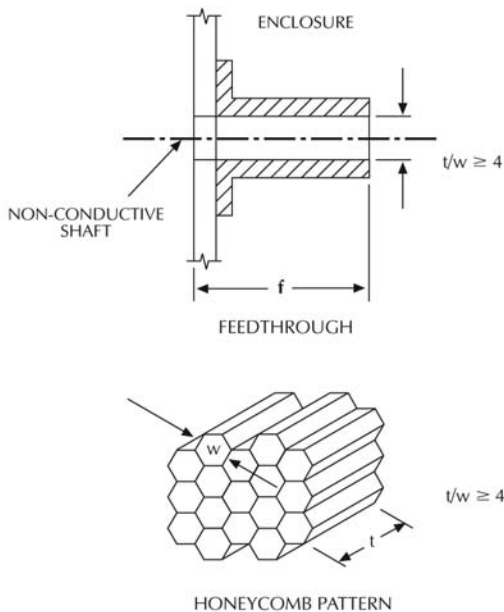

FIGURE 8 WAVEGUIDES BEYOND CUTOFF
To maintain the shielding integrity of an enclosure with feedthroughs for non-conductive shafts or air vents, waveguide theory may be applied. A metal tube may be used for non-conductive shafts as shown in Figure 8. This tube may be treated as a waveguide to determine its 'shielding' characteristics. The attenuation (A) characteristics of an individual waveguide below the cutoff frequency (f_c) is a function of the depth to width ratio (d/w). As the depth to width ratio increases, so does the shielding.
As discussed above, air vents that attenuate electromagnetic energy can generally be designed using multiple small holes in a metallic enclosure. However, in some cases where adequate attenuation can not be achieved in this manner, for example, when the noise source is close to the air vent, a honeycomb waveguide design may be used as shown in Figure 8. These waveguide air vent panels are available from Tecknit. See Section F in the Tecknit Catalog.